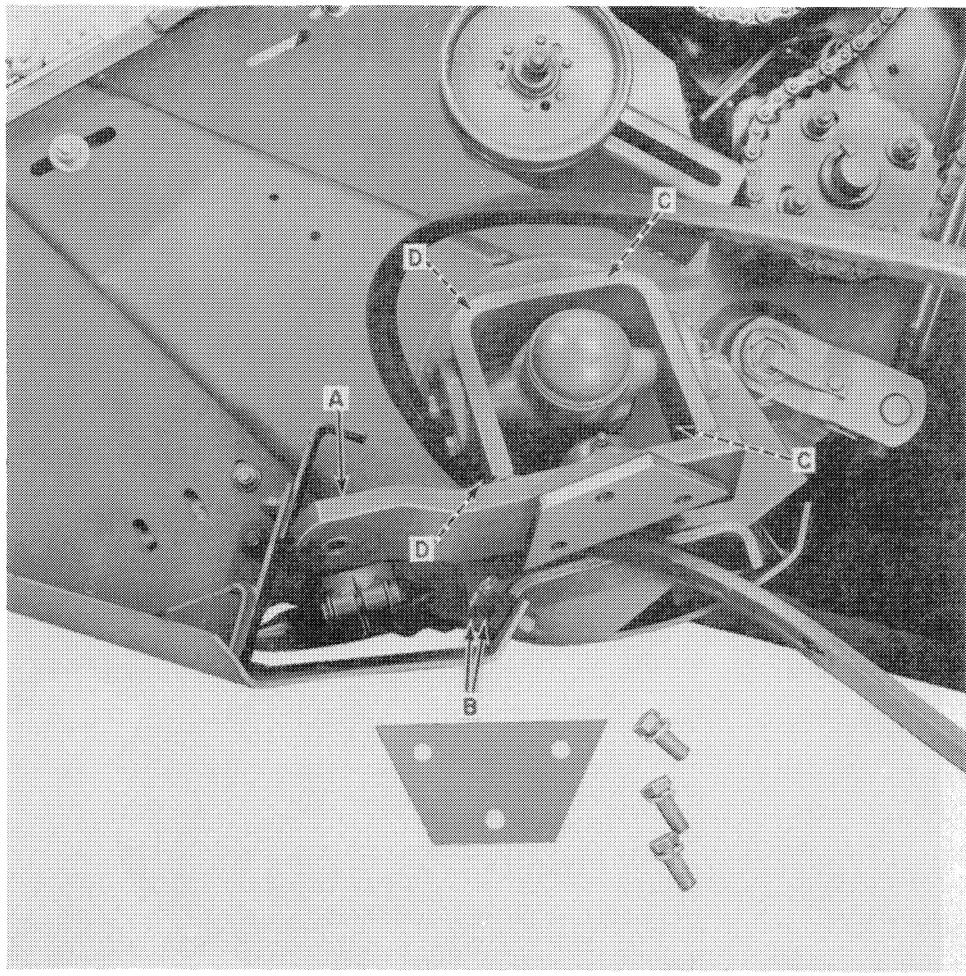

FIGURE 2
5. Rotate the wobble sheave until wobble yoke, A, Figure 2, is in the highest position. Rotate the steady rest support as shown and remove the belt.
6. Remove bolts, B, and bolts or nuts, D and C, Figure 2. Then remove the complete wobble assembly from the mower-conditioner.
Install the wobble assembly using bolts or nuts at C and D, Figure 2. Install bolts, B. Tighten the hardware installed up to this point.